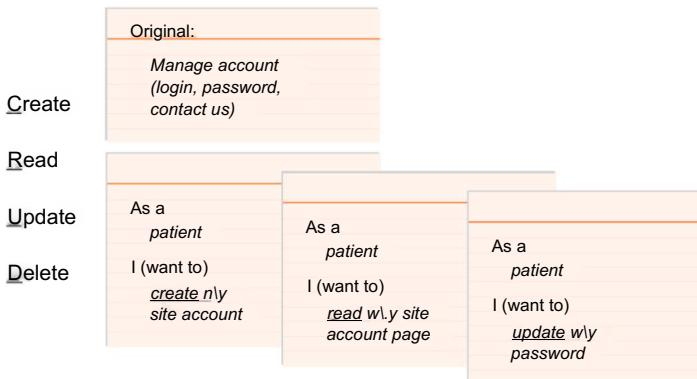

FIGURE 7.17 CRUD functional decomposition
- Example from a “design, build, test, accept, release” model These steps describe the common iterative cycle process that continues throughout the project. At any time during this process opportunities for improvement in story decomposition can emerge. For example, let’s say during the build step two team members are practicing paired programming. (This means two programmers sit together and take turns with one person programming while the other watches.) What if the observing programmer on the “manage account” story in figure 7.17 suddenly realizes that the stories for this feature can be broken down and built in a different way that results in a better, simpler design? Although perhaps invisible to the end user, the product has just been improved.
- Process-based breakdown The “manage account” story in figure 7.17 shows a process-based breakdown. The process described as “Manage account” is shown to have three sub-processes associated with it (although there are more than the sub-processes shown in this simple example).
- CRUD (Create, Read, Update, Delete) This acronym stands for the list of things a programmer wants to allow a user to do with data. See the illustration in figure 7.17. We provide this example to help you remember the term CRUD, which may be used on the exam. You will not need to know more than this about this method.
Figure 7.17 shows how “manage account” may be broken down using CRUD. Notice that “D” is not included since the clinic will not want a patient to be able to delete their own account.